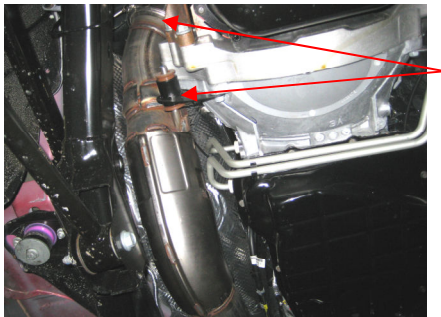

Figure 3
3. Carefully unplug and then remove the O₂ and EGT sensors along the stock downpipe. Retain the sensors for the installation. Remove the hanger from the bellhousing and loosen the V-band clamp on the down pipe. Remove the stock down pipe. **Refer to Figure 3.**